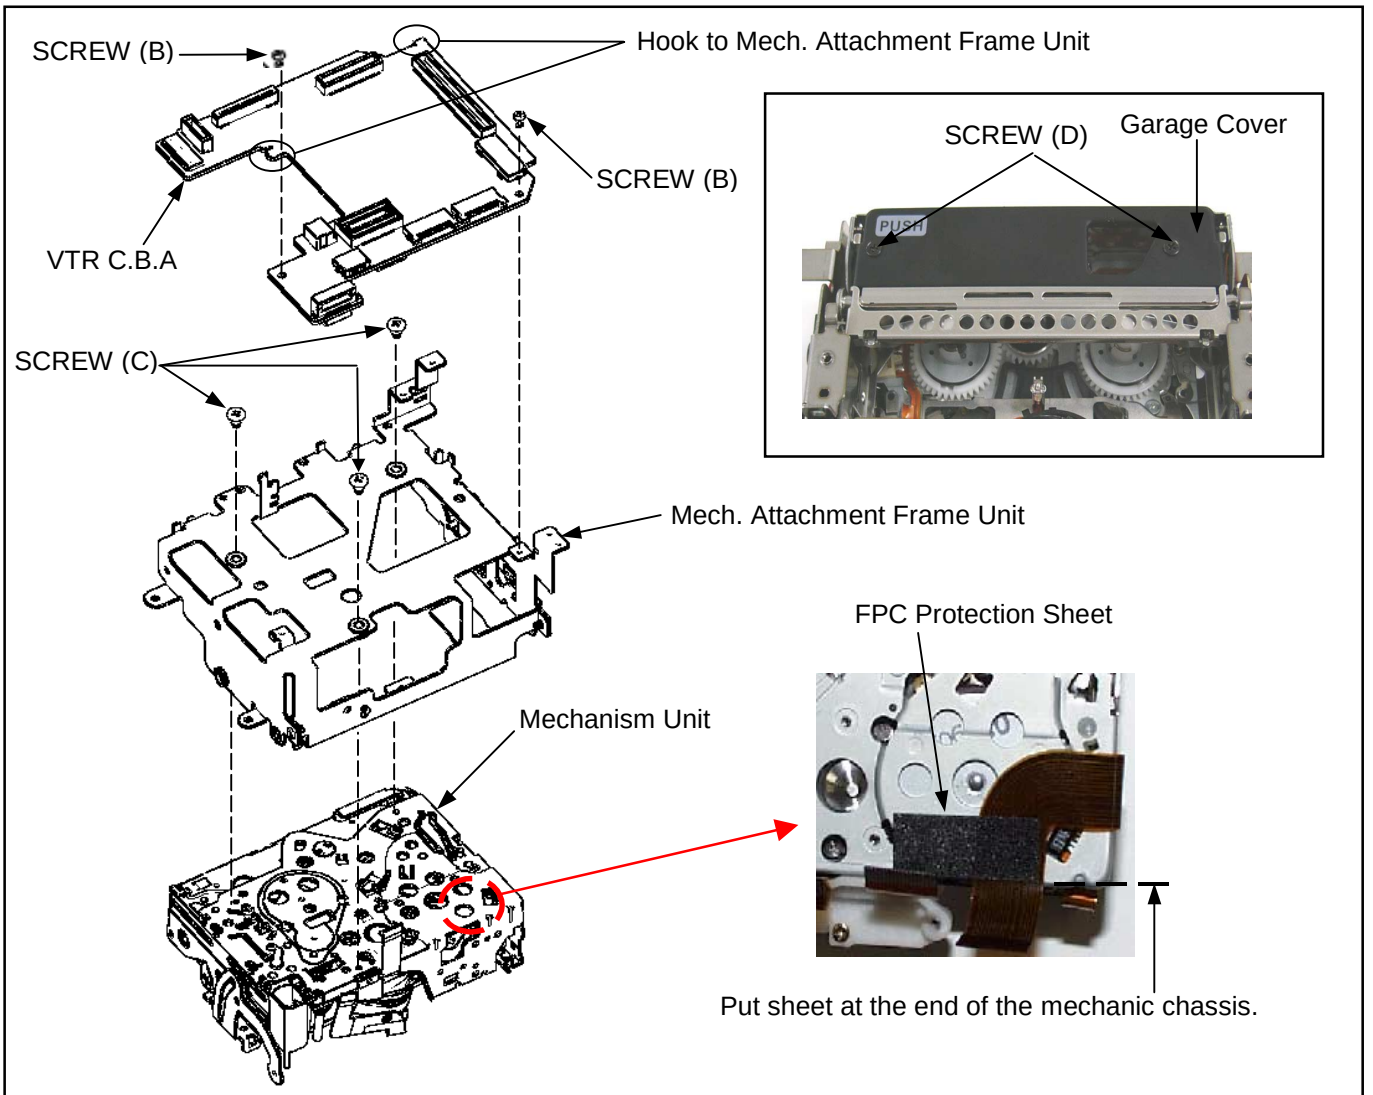

Figure 11-3
13. Unscrew the 2 screws (B) and remove the VTR C.B.A. as shown in figure 11-3.
14. Unscrew the 3 screws (C) and remove the Mechanism Unit from Mech. Attachment Frame Unit as shown in figure 11-3.
15. Unscrew the 2 screws (D) and remove the Garage Cover as shown in figure 11-3.
NOTE: In case a new Mechanism unit is installed, put the FPC Protection Sheet in the following position as shown in figure 11-3.